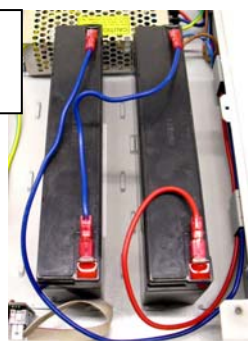

Figure 2
- Attach the device to the front panel using four of the screws and block plastic washers included through the holes of the front panel in the 19" frame (see figure 2)